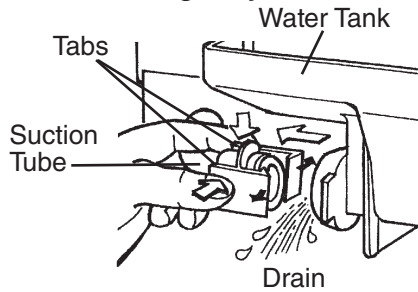

Fig. 32
- 7) Inside the ice storage bin, disconnect the suction tube by squeezing the tabs and pulling the tube clear. See Fig. 32. Allow the water tank to drain.